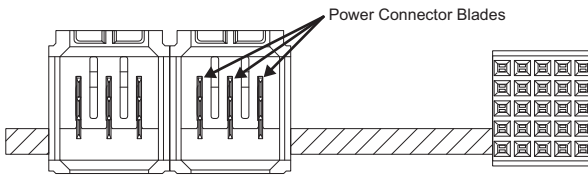

Figure 7 Power Connector Blade Inspection
2. Inspect the **Power Connector Blades** on your board (**Figure 7**) to ensure that they are not bent or damaged.